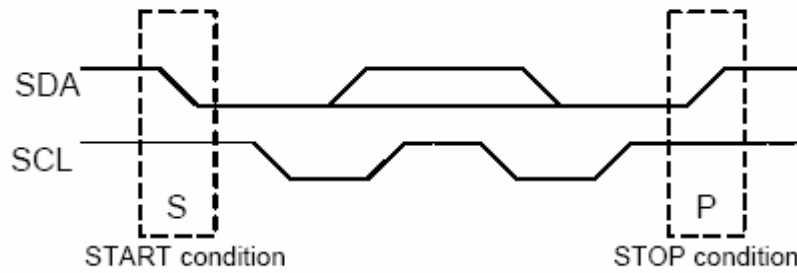

Fig .2 Definition of START and STOP conditions
Both data and clock lines remain HIGH when the bus is not busy. A HIGH-to-LOW transition of the data line, while the clock is HIGH is defined as the START condition (S). A LOW-to-HIGH transition of the data line while the clock is HIGH is defined as the STOP condition (P). The START and STOP conditions are illustrated in Fig.2.